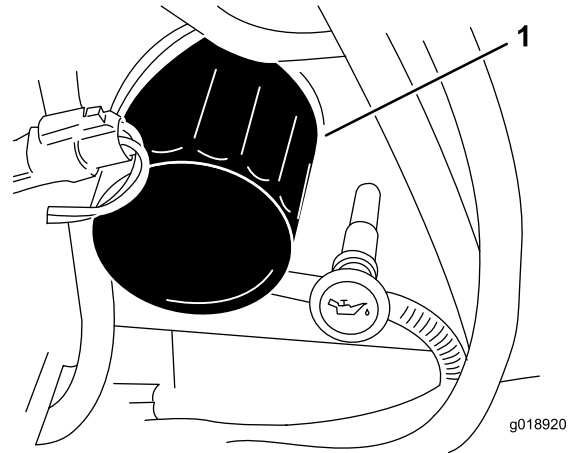

Figure 25
3. Remove the old filter (Figure 25) and wipe the surface of the gasket seal on the filter head.